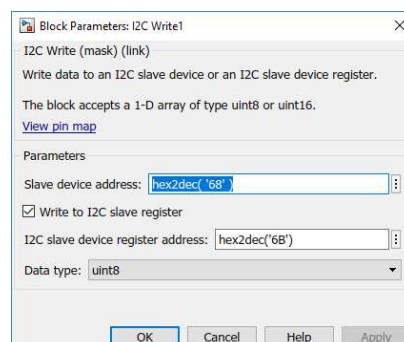

Figure 3: I2C Block Configuration
- Implement the initialization sequence as shown below. An example of how to configure the I2C block is shown in Figure 3. The corresponding slave device address is 0x68